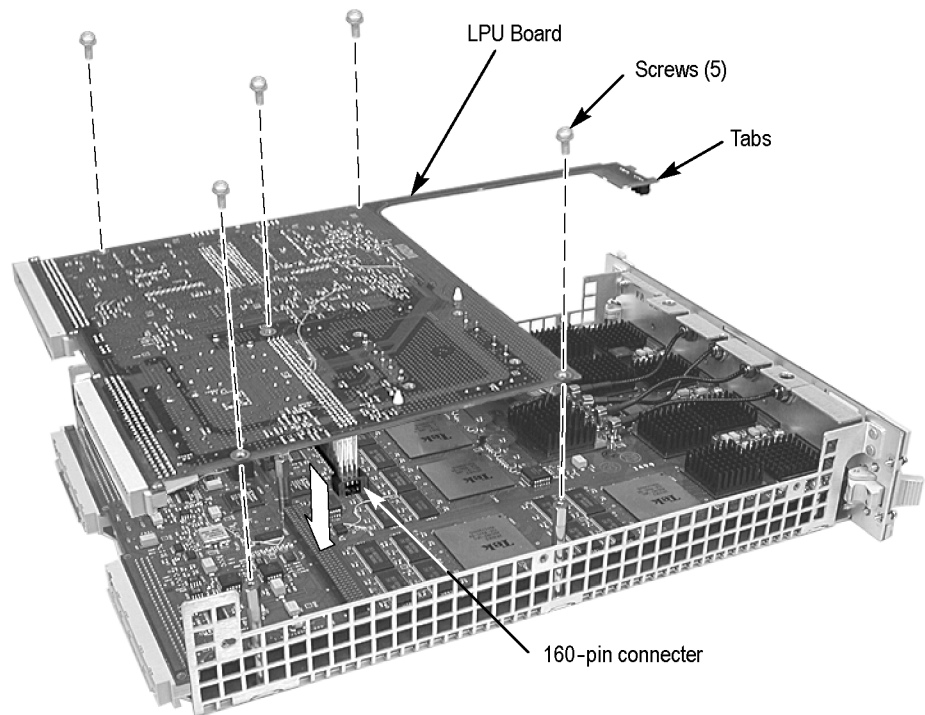

Figure 16: LPU board removal
4. Move the LPU board away from the front panel until the tabs clear the front subpanel and then remove the LPU board from the chassis. (See Figure 16.)